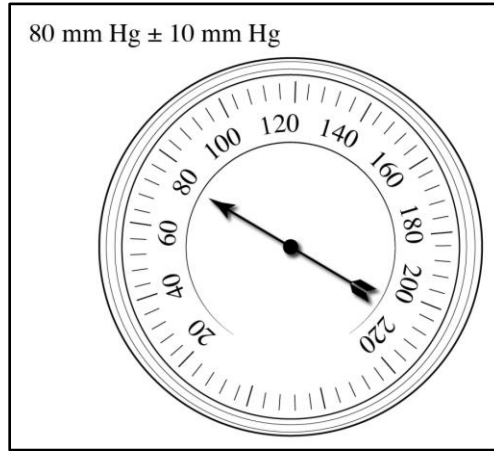

Figure 4
12. Set the vacuum source to 80 mm Hg +/- 10 mm Hg while occluding the end of the tubing (80 mm Hg = 1.5 psi = 10.7 kPa = 3.2 in Hg = 106.7 mbar) (**See Figure 4**).